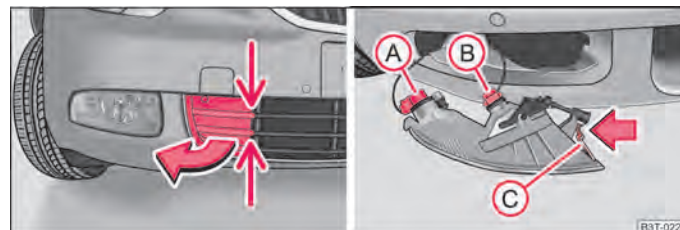

Fig. 206 Front bumper: Cover/fog lights with daylight driving lights
- Grasp the cover at the points marked with the arrows ⇒ fig. 206 - left and take it out.
- Guide your hand into the opening, in which the cover was located, and press the spring bolt (C) ⇒ fig. 206.
- Turn the socket (A) or (B) with the bulb to the left up to the stop and take it out.